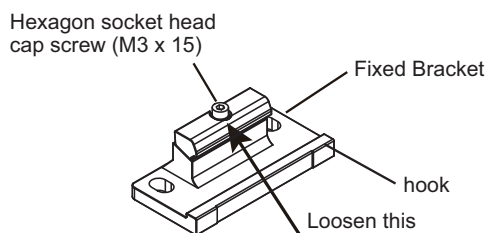

Fig. 1
1. Loosen the hexagon socket head cap screws (M3 x 15). (Fig.1)